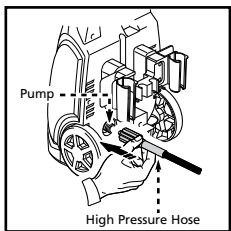

Fig. 4
- Screw the high pressure hose (clockwise) on the back of the unit at the bottom (Fig. 4). The end of the hose must be inserted into the water outlet far enough so the collar can thread onto the outlet threads until hand tight. Do not use pliers or vice grips to tighten. If it takes fewer than six or so turns you have not properly tightened the high pressure hose fitting. It is easier to position the power washer in front of you so to ensure that the threads are started correctly. Failure to properly tighten the high pressure hose will result in the hose slipping or popping off immediately upon turning the unit on. Do not worry about damage if this occurs - just reinstall and take extra care at screwing on the high pressure hose fitting.